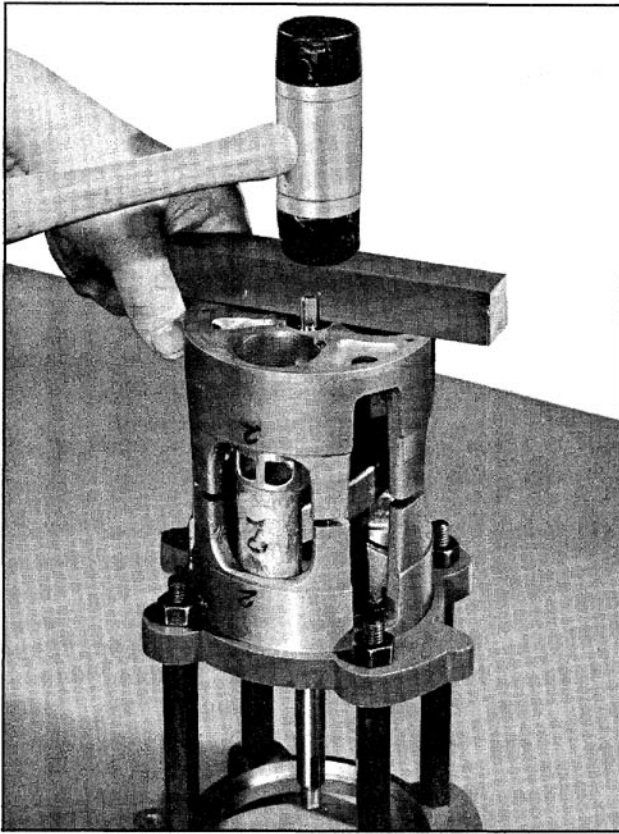

Fig. 14-122 Assembling Cylinder Halves
21. Rotate the shaft to position the pistons in a "stair step" arrangement. Place the rear half of the cylinder over the shaft and start the pistons and rings into the cylinder bores. When all parts are in proper alignment, tap rear cylinder with a wood block and mallet to seat the rear cylinder over the locating dowel pins. (Fig. 14-122)